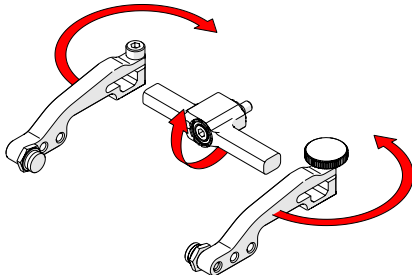

Fig. 80 - Flip yoke and reverse arms
3. Flip the yoke 180° and reverse the probe holder arms (Fig. 80).